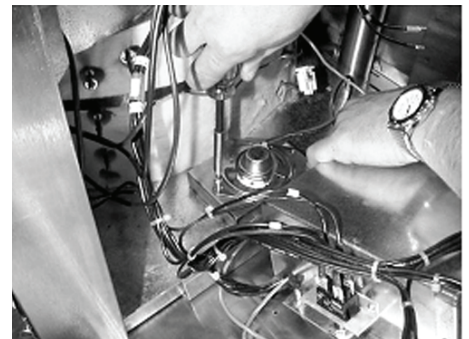

Figure 21
- B. Push the two high limit thermostat wires onto the high limit thermostat terminals (see figure 21).